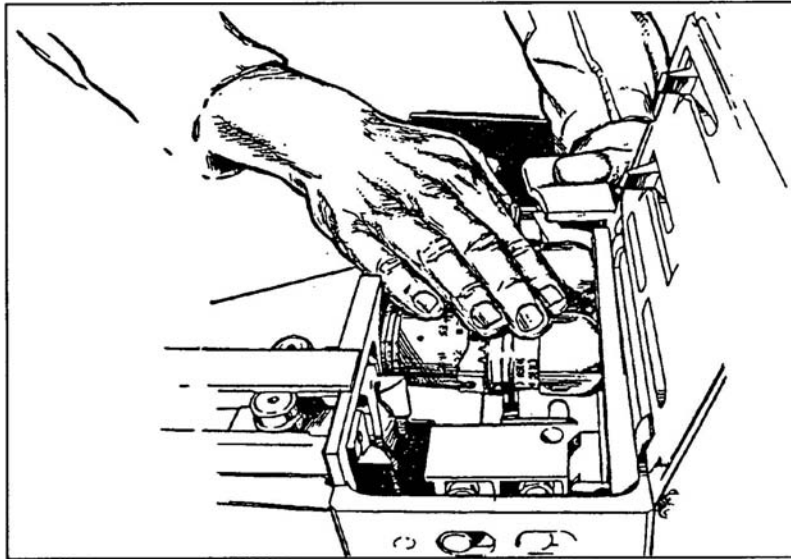

Figure 071-030-0005-2. Pushing round across feeder pawls
- c. Index the feed slide assembly to the left and close the top cover (figure 071-030-0005-3).